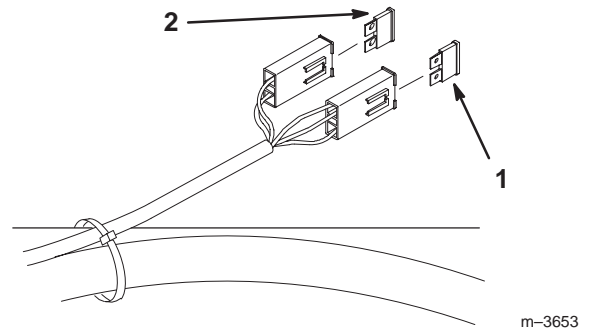

Figure 60
1. Raise the seat to gain access to fuse holder (Fig. 60).
2. To replace fuses pull out on the fuse to remove it (Fig. 60).
3. Install a new fuse (Fig. 60).